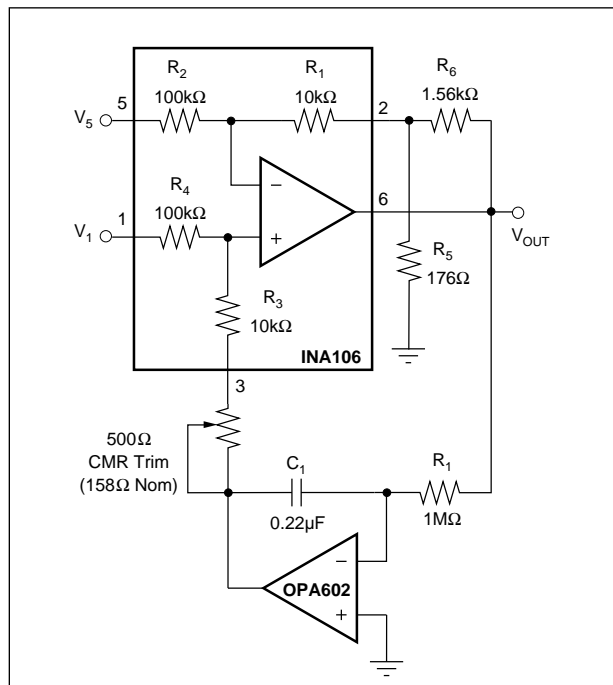

FIGURE 3. AC-Coupled  $\pm 100\text{V}$  Difference Amp Using the INA106.
The simplest circuit for the DC-restored INA106 is shown in Figure 3. The INA106 is reversed from its normal Gain-of-10 configuration. The  $100k\Omega$ ,  $10k\Omega$  resistors form a 11/1 voltage divider on the input so that  $\pm 100V$  at pins 1 and 5 are divided down to less than  $\pm 10V$  at the op amp inputs. The  $R_5$ ,  $R_6$  network provides the proper feedback Gain for an overall unity-gain transfer function. Since the precise resistor matching of the INA106 is disturbed by the  $R_5$ ,  $R_6$  network this circuit requires trims for both CMR and Gain.
NOTES (1) Reverse-connected, see figures 3,4, and 5. (2) Gain is adjustable from 1 to 1000+. Noise and bandwidth depend on Gain setting. INA103 has the lowest noise:  $1\text{nV}/\sqrt{\text{Hz}}$ , Gain = 1000. INA103 has the highest bandwidth: 6MHz, Gain = 1. INA102 is low power ( $750\mu\text{A}$  max). INA110 has FET inputs ( $I_b = 50\text{pA}$  max). INA101 has lowest drift ( $.25\mu\text{V}/^\circ\text{C}$  max). INA120 is a lower IQ INA101 with internal resistors for Gains of 1, 10, 100, and 1000. (3) Yes!, the common-mode input range of standard IAs is only about  $\pm 7\text{V}$  with  $\pm 10\text{V}$   $V_{\text{OUT}}$ ; see "Extended Common-Mode Instrument Amps", *Electronic Design*, December 22, 1988, pp 67, 68.